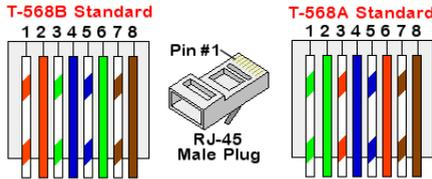

Figure 25: Standard cable wiring
- c. Insert the eight wires into an RJ45 connector, as described in *Figure 25*.
7. For the switch/router side, use a pre-terminated cable or use a crimper to prepare an RJ45 communication connector: Insert the eight wires into the RJ45 connector in the same order as above (*Figure 25*).